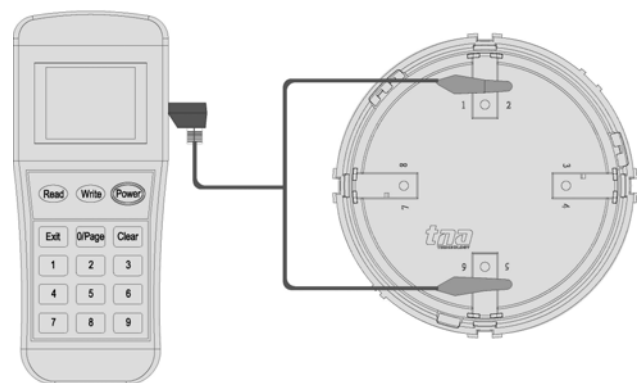
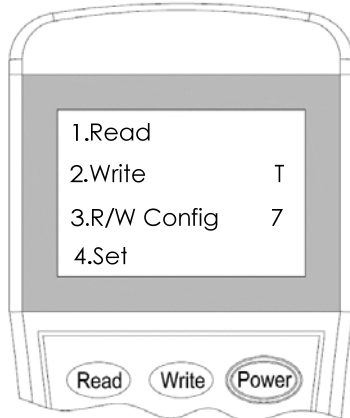

Fig.5 Connection of programming tool and Addressable Flashing Beacon Base
Fig.6 Main menu
1. Connect the programming cable to Z1 and Z2 terminals, as shown in Figure 5. Press **"Power"** to switch on the unit. The main menu after the boot as shown in Figure 6.
The encoding mode of the Addressable Flashing Beacon Base can be set by a programming tool. As shown in figure 11, the option corresponding to the number will be selected when a number is pressed at the interface shown in Figure 6. And then click the button **"write"**. The word **"Success"** or **"Fail"** on the screen means that the success or not of the encoding mode setting, as shown in figure 12 and figure 13.